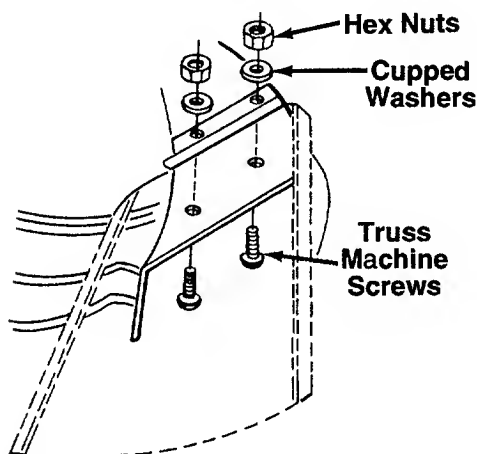

FIGURE 5.
3. Place the chute deflector in position as shown in figure 5. Secure with hardware just removed. Cupped side of washers goes against the chute deflector.